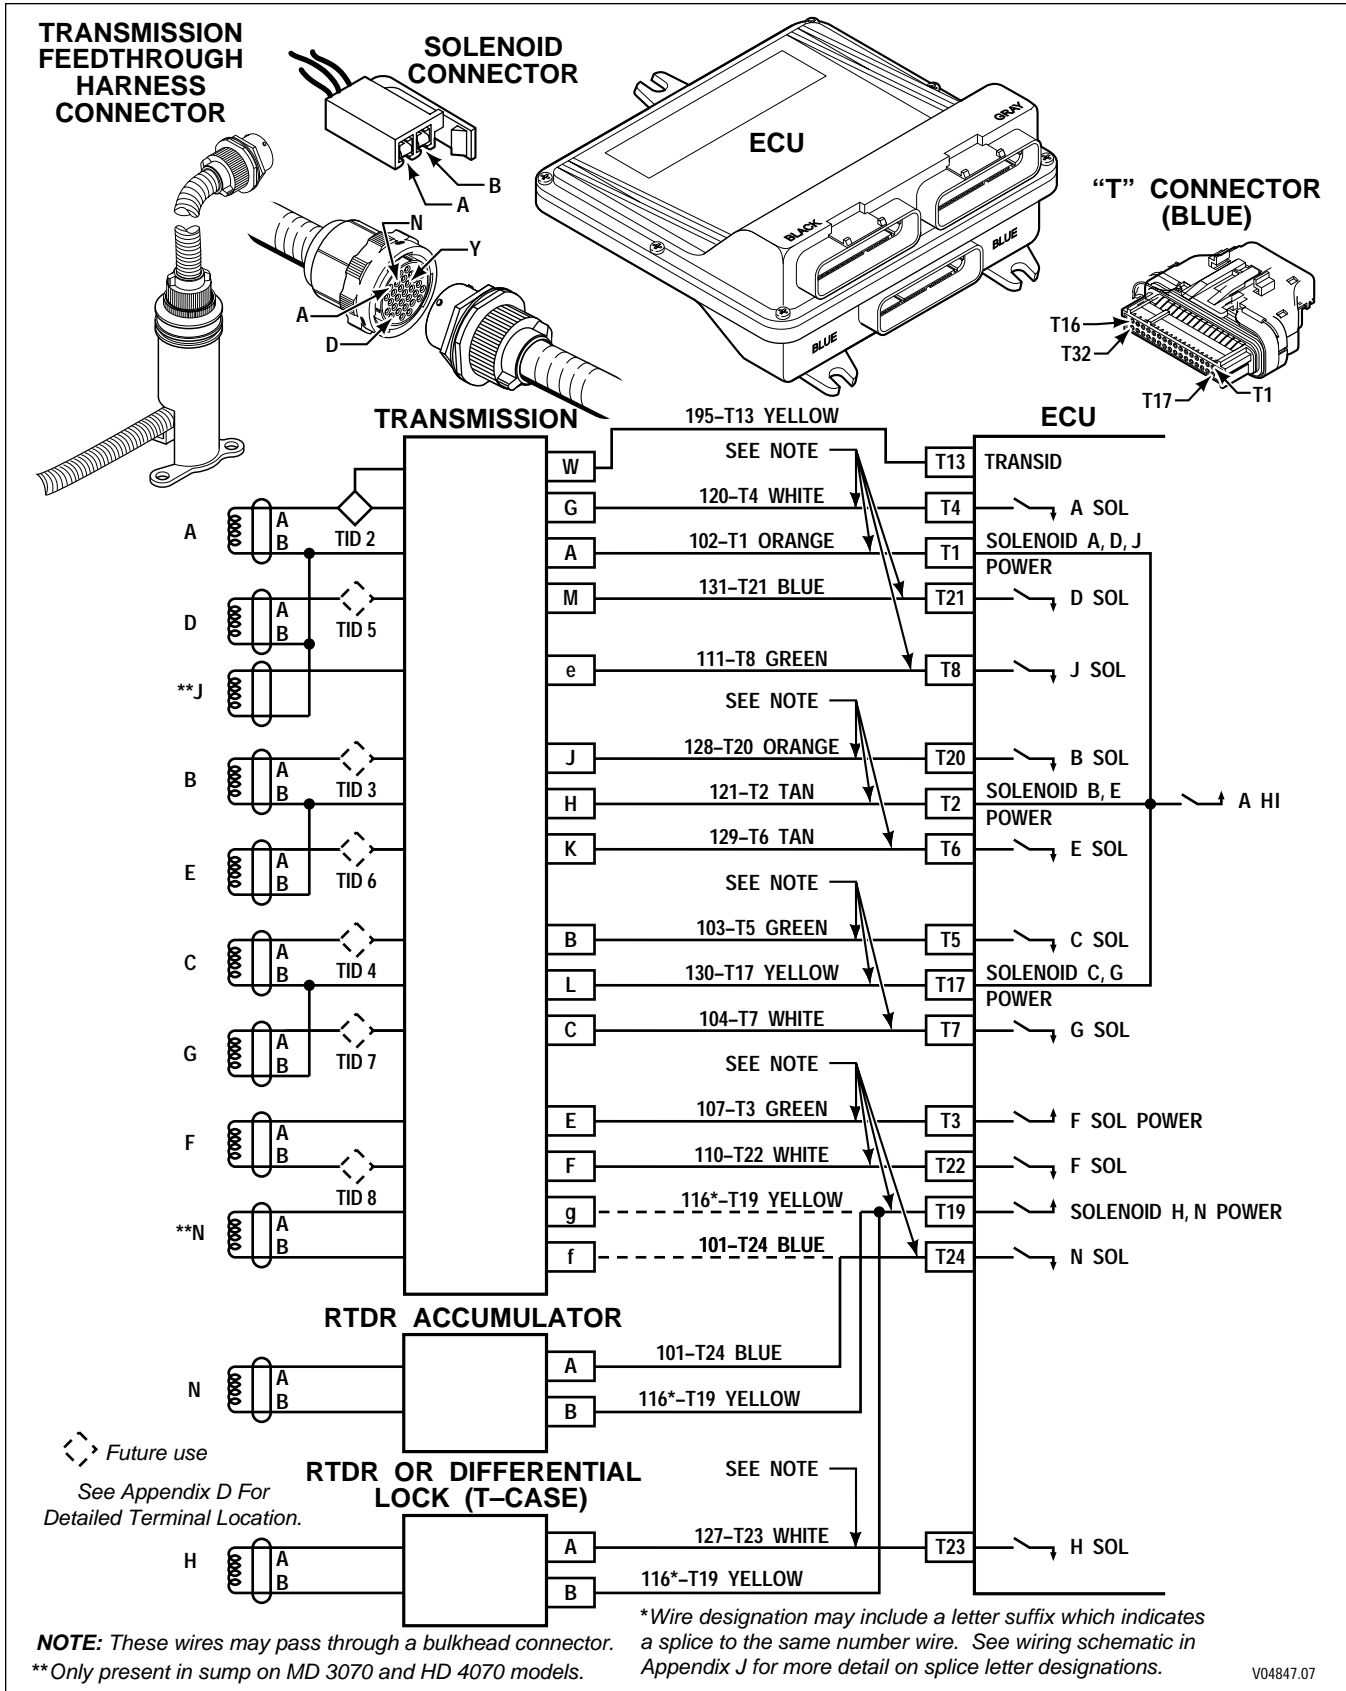

Figure 6-20. Code 46 Schematic Drawing
**CODE 46 XX — OVERCURRENT TO SOLENOIDS** *(Figure 6-20)*